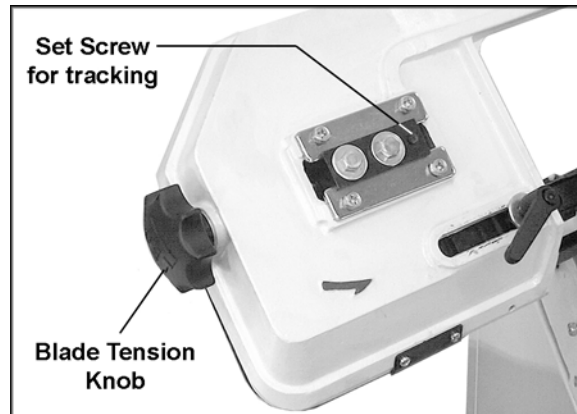
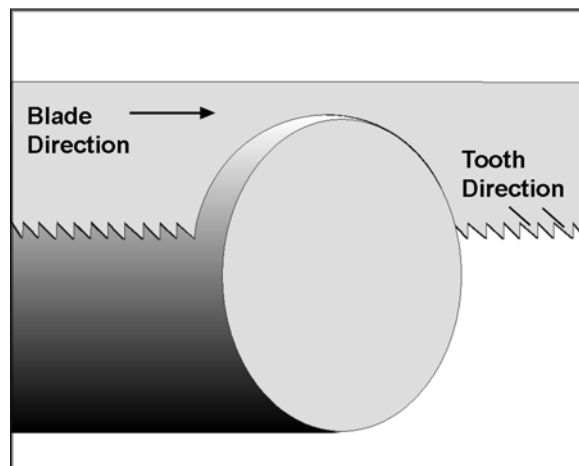

Figure 15
Figure 20
Use the knob (Figure 15) to tension the blade. Clockwise tightens the blade, counterclockwise loosens it.
1. Turn the socket set screw (Figure 15) as needed to shift the angle of the idler wheel. NOTE: This adjustment is sensitive; do it gradually and in small increments allowing the wheel to respond to the changes.
5. Remove old blade and install new one by placing it between the guides and around the band wheels. Make sure the blade is oriented properly so that the teeth will point downward and into the workpiece (Figure 20). An arrow on the the body of the bow indicates blade direction (shown in Figure 15).